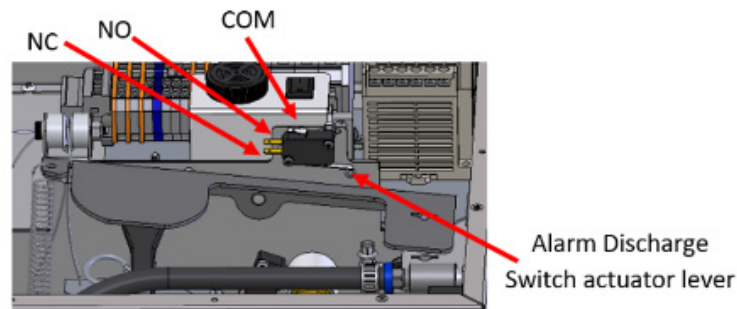

Figure 14.11
- Depress actuator lever located at the micro-switch above to tank. (see figure 14.11)